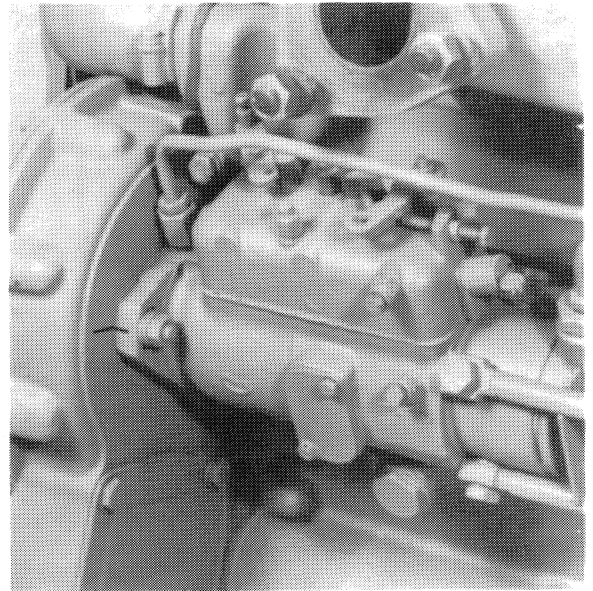

Fig. H.3.
5. See that the fuel pump is correctly fitted with the scribed lines on the mounting flange and timing case in-line (See Fig. H.3).